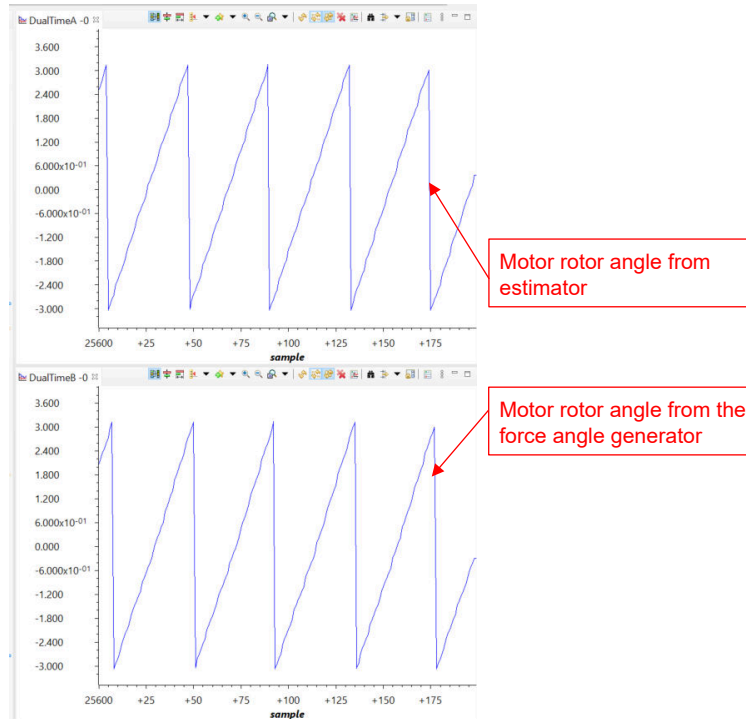

Figure 2-36. Build Level 2: Motor Rotor Angle Waveforms With Graph Tool
- c. Configuring DATALOG module four inputs as the following codes. The angle from the force angle generator or estimator waveforms on the graph tool as shown in Figure 2-36. Notice that the angle of the force angle generator is very similar as the estimated rotor angle of the FAST or eSMO estimator.
Use Datalog with Graph Tool to monitor rotor angle of the motor from the angle generator and angle from the FAST estimator as shown in Figure 2-36.